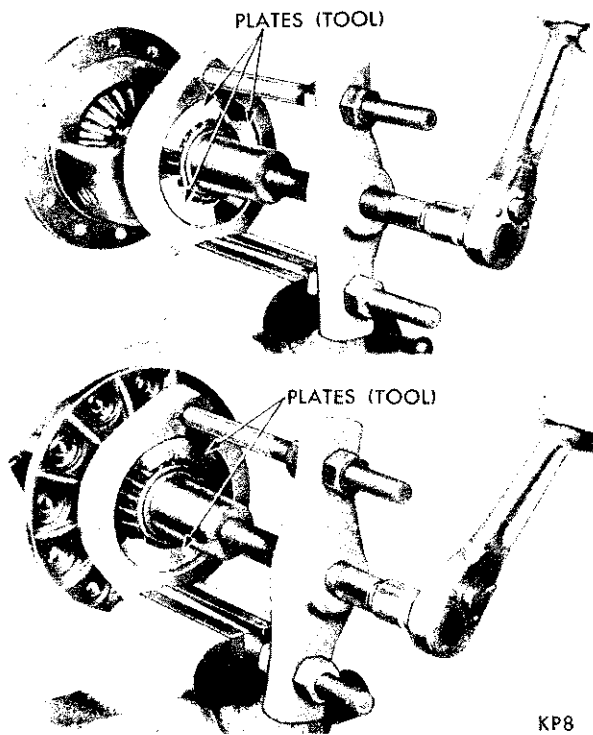

Fig. 21—Removing Differential Bearings
(1) Clean all parts in fast evaporating mineral spirits or a dry cleaning solvent and with the exception of the bearings, dry with compressed air.
(2) Inspect the differential bearing cones and cups for pitting, spalling or other visible damage. If replacement is necessary, remove the bearings from the differential case with puller Tool C-293 and four adaptor plates No. 18 (Fig. 21).